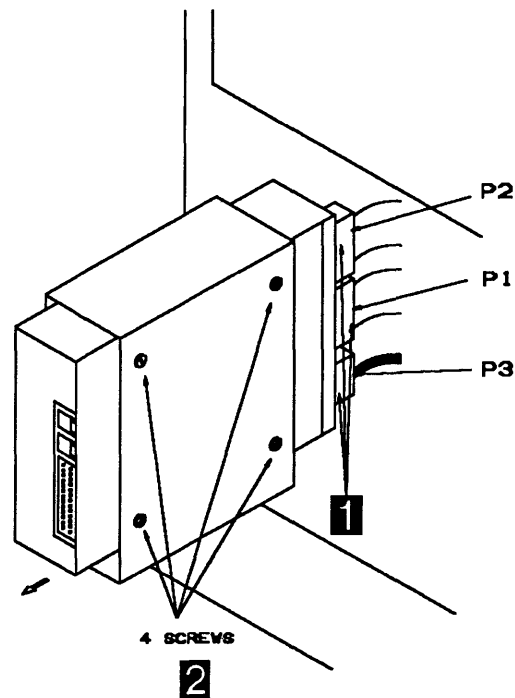

Figure 5-54. HDD Removal
- a. Press the 'Function' key on the control panel until the 'MOSS Power OFF' function (B) is displayed.
- c. Observe the MOSS Inoperative display on the control panel. At completion of power OFF, this will display the character (B).
9. Referring to Figure 5-54, replace the FRU as follows: